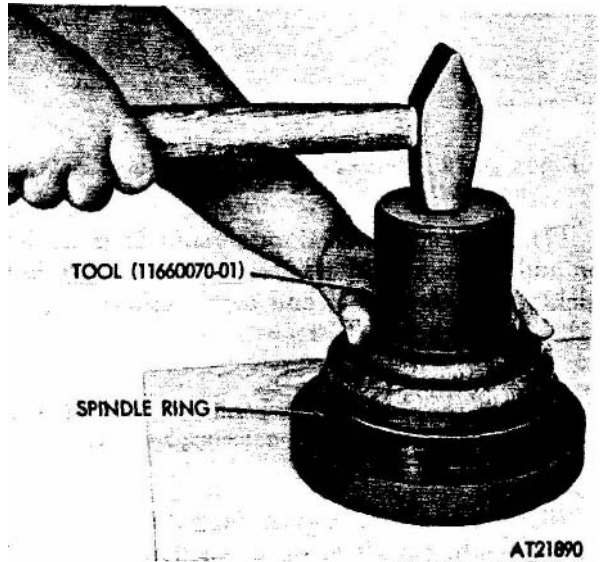

Figure 2-237. Spindle ring installation.
(5) Insert spindle ring into spindle using installer tool (11660070-01) (fig 2-237).